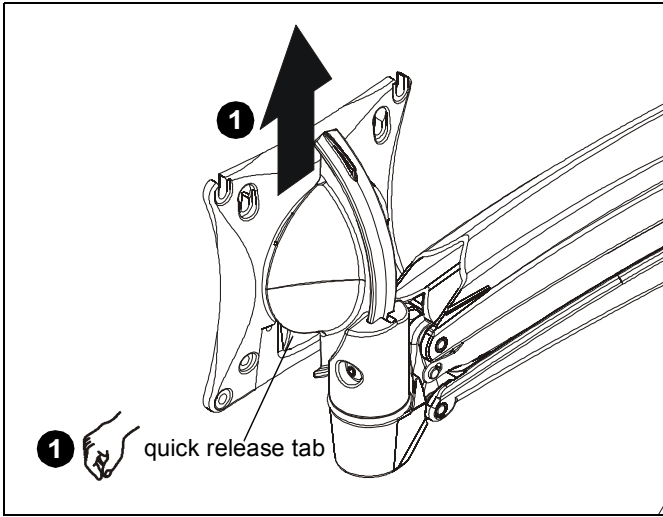

Figure 2
1. Remove quick release faceplate from mount by pressing quick release tab and sliding faceplate off mount. (See Figure 2)